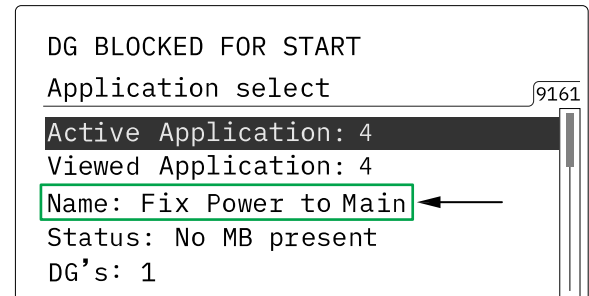

Figure 112. Fix Power To Main
11. Verify that **Name** is displayed as **Fix Power to Main** (Figure 112).